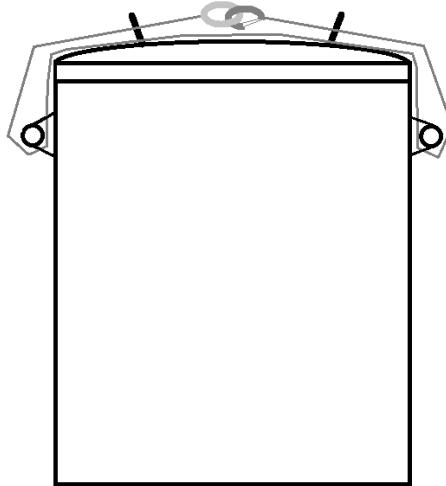

Figure 17: Security Cable Installation
- Loop the safety cable through both lid handles and through the handles on both sides of the vessel and then back through the lid handles so the two ends meet then secure the two ends together (See Figure 17)